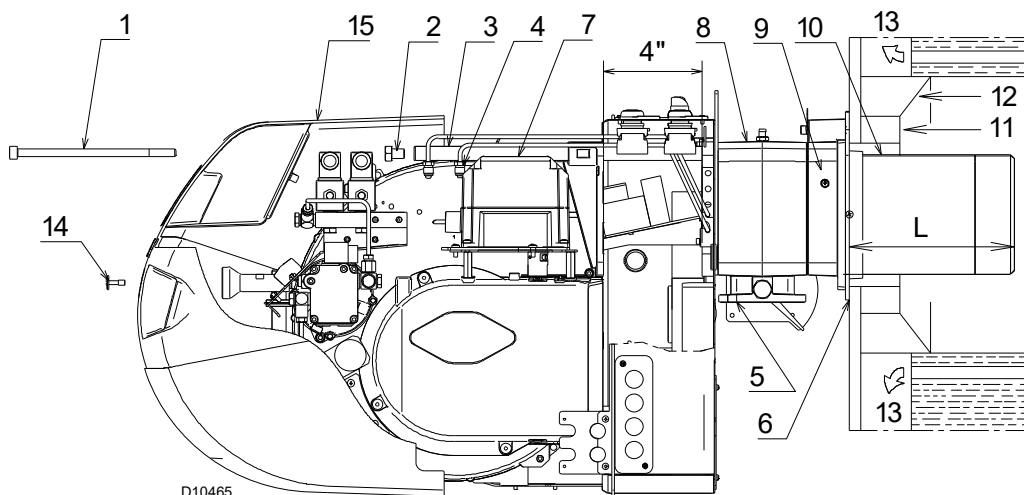
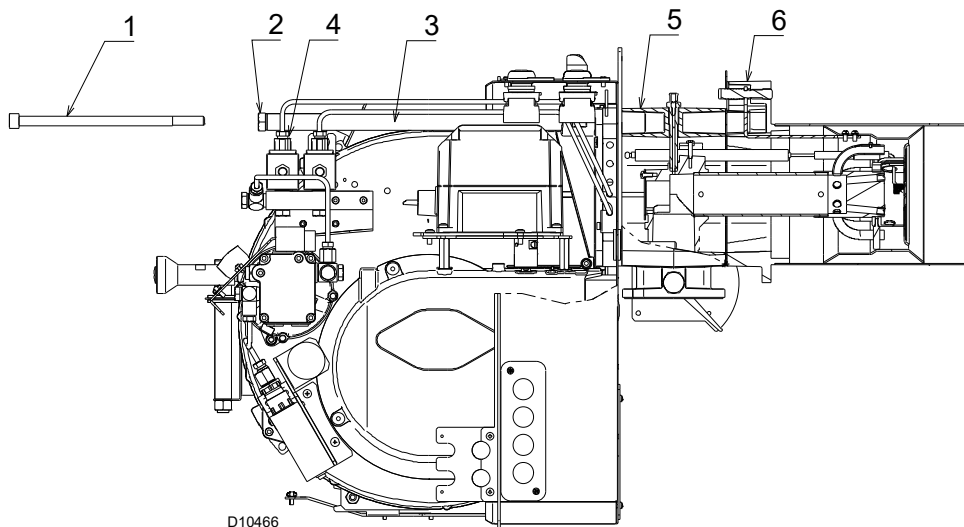

Fig. 10
Fig. 15
For boilers with front flue passes 13)(Fig. 10) or flame inversion chambers, protective insulation 11) must be inserted between the boiler refractory 12) and the blast tube 10).
Detach the combustion head from the burner (Fig. 10):
- Refit the burner 4)(Fig. 15) to the slide bars 3) at approximately 4" from the sleeve 5) - burner positioned as shown in Fig. 10 at page 18;
- insert the ignition electrode cables and then slide bars the burner up to the sleeve so that it is positioned as shown in Fig. 15;
- connect the oil pipes again by screwing on the two connectors 4)(Fig. 10 at page 18).